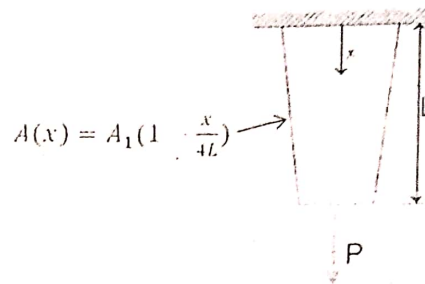

Figure 2: Tapered axial bar
3. Figure 2 depicts a tapered elastic bar subjected to an applied tensile load P at one end and attached to a fixed support at the other end. The cross-sectional area varies linearly from A_1 at the fixed support at $x = 0$ to $3A_1/4$ at $x = L$. Calculate the displacement of the end of the bar